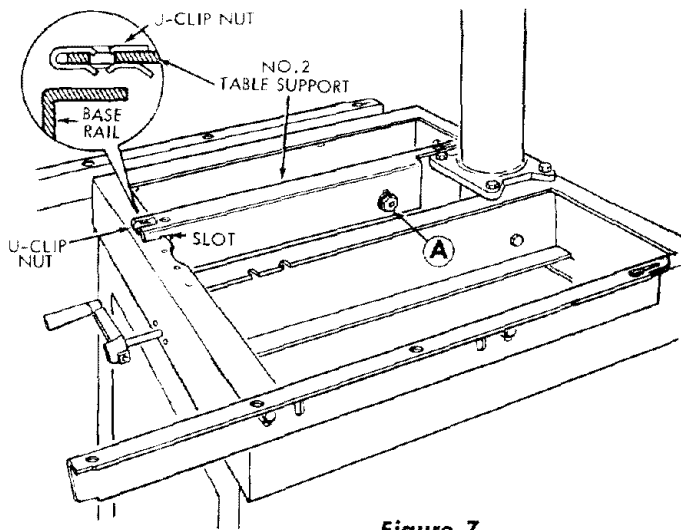

Figure 7
- b. Install the No. 2 table support (figure 7) by "hooking" the forward end over the upper flange of front base rail and attaching the rear of support (at point "A", figure 7) with one 5/16-18 x 3/4-inch, hex-head screw, 11/32-inch flat washer, 5/16-inch lockwasher and hex nut. The nut should be facing toward the right, as shown. Tighten the screw as described in preceding step a.
- c. Slide the U-clip nut on forward end of No. 2 table support, as shown in inset of figure 7. (The formed portion of the U-clip must be underneath the table support.) Align the hole in the U-clip nut with hole in No. 2 table support.